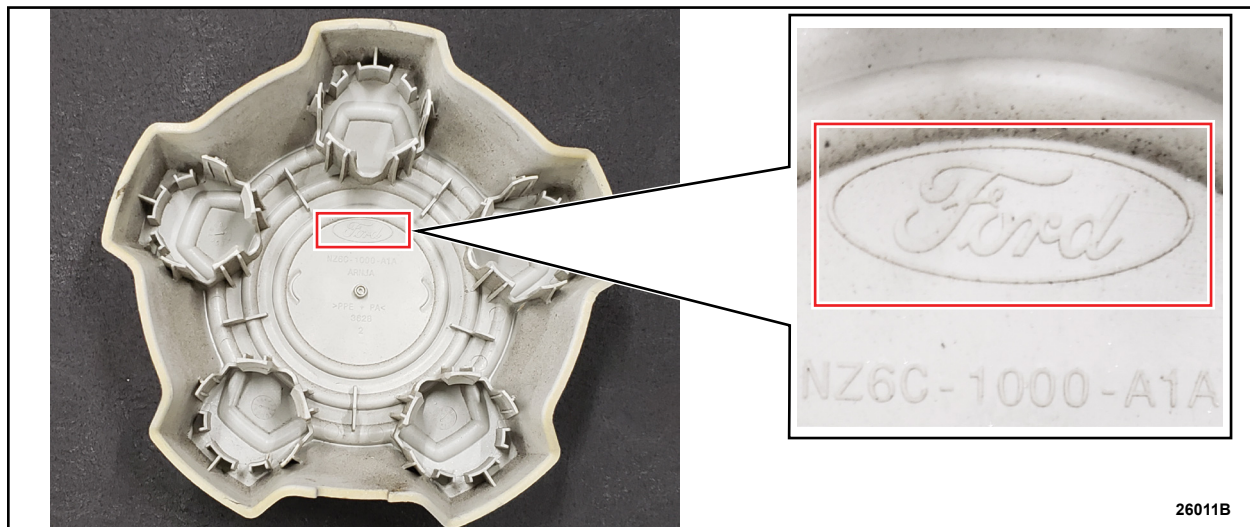

FIGURE 1
2. Position the wheel center caps on a workbench with the Ford logo at the 12 o'clock position. See Figure 1.